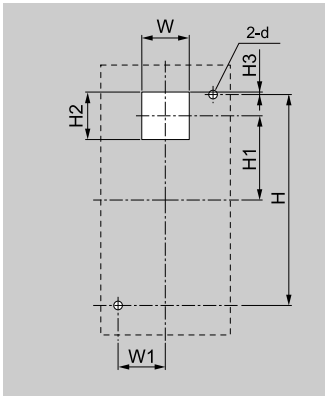

Figure 2.9 Panel Cut-Out Dimensions to Attach Outside of Control Panel
1. Use the panel cut-out dimensions in Figure 2.9 and Table 2.3 to cut an opening in the control panel for the keypad.